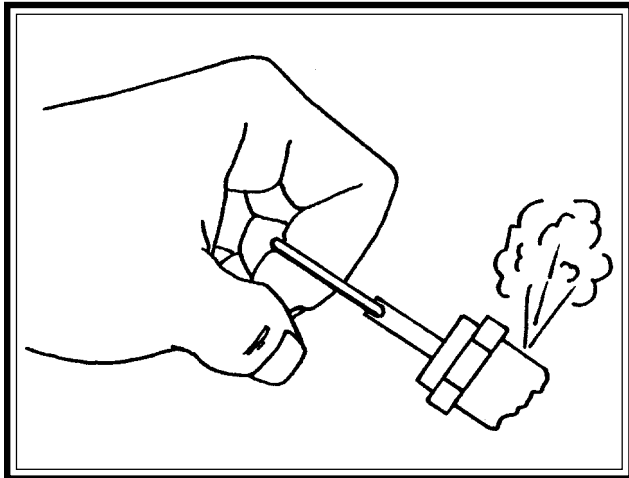

Fig. 3-12 Checking Pressure Relief Valves & Relieving System Pressure Pix 1160
Step 2) Tank(s) subjected to freezing temperatures may contain ice. Store the compressor in a heated area before attempting to drain moisture from the tank(s). Reduce the air pressure in the tank to 30 PSIG by pulling the pressure relief valve ring (refer to **Fig. 3-12, Checking Pressure Relief Valves & Relieving System Pressure**).